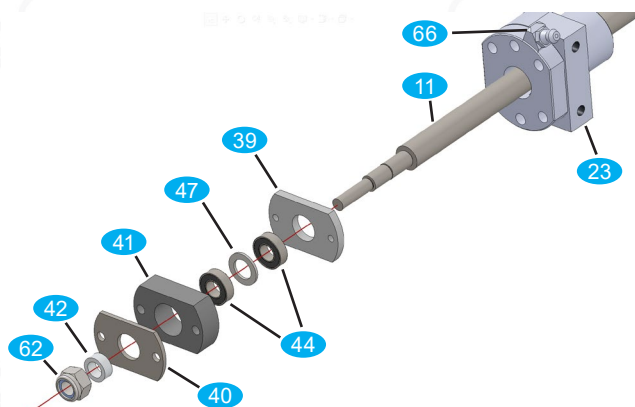

Fig. 8: Mounting the fixed bearings on the Y spindles
- Now assemble the parts of the fixed bearings in the order shown in Figure 8. Use the assembly aid **MH** and a plastic hammer to push the ball bearings **44** onto the fit of the spindle. Attention: Only press the ball bearing onto the inner ring!